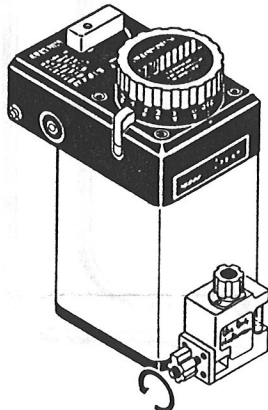

Figure 5-5
2. A lever is on the left side of the vaporizer's filler port, which is on the front of the vaporizer. Turn this lever counterclockwise as far as it will go, but do not try to remove the lever. (See figure 5-5.)